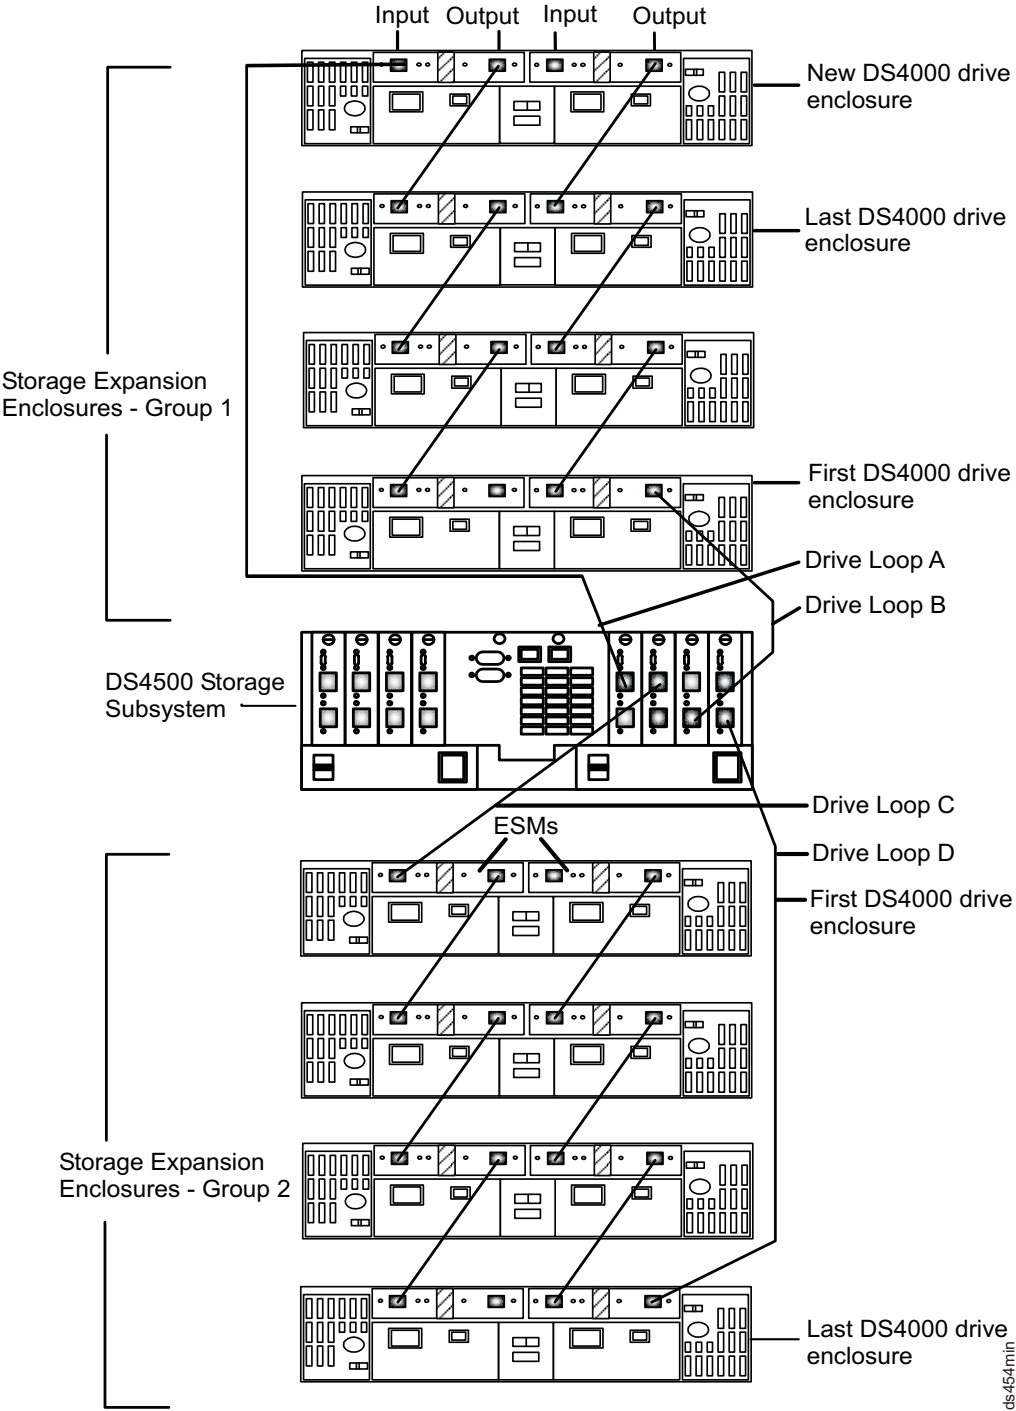

Figure 16. Connecting two redundant storage expansion enclosure groups
3. Connect drive loop C to the DS4500 Storage Subsystem, as shown in Figure 16 on page 15.
4. Connect drive loop D to the DS4500 Storage Subsystem, as shown in Figure 16 on page 15.